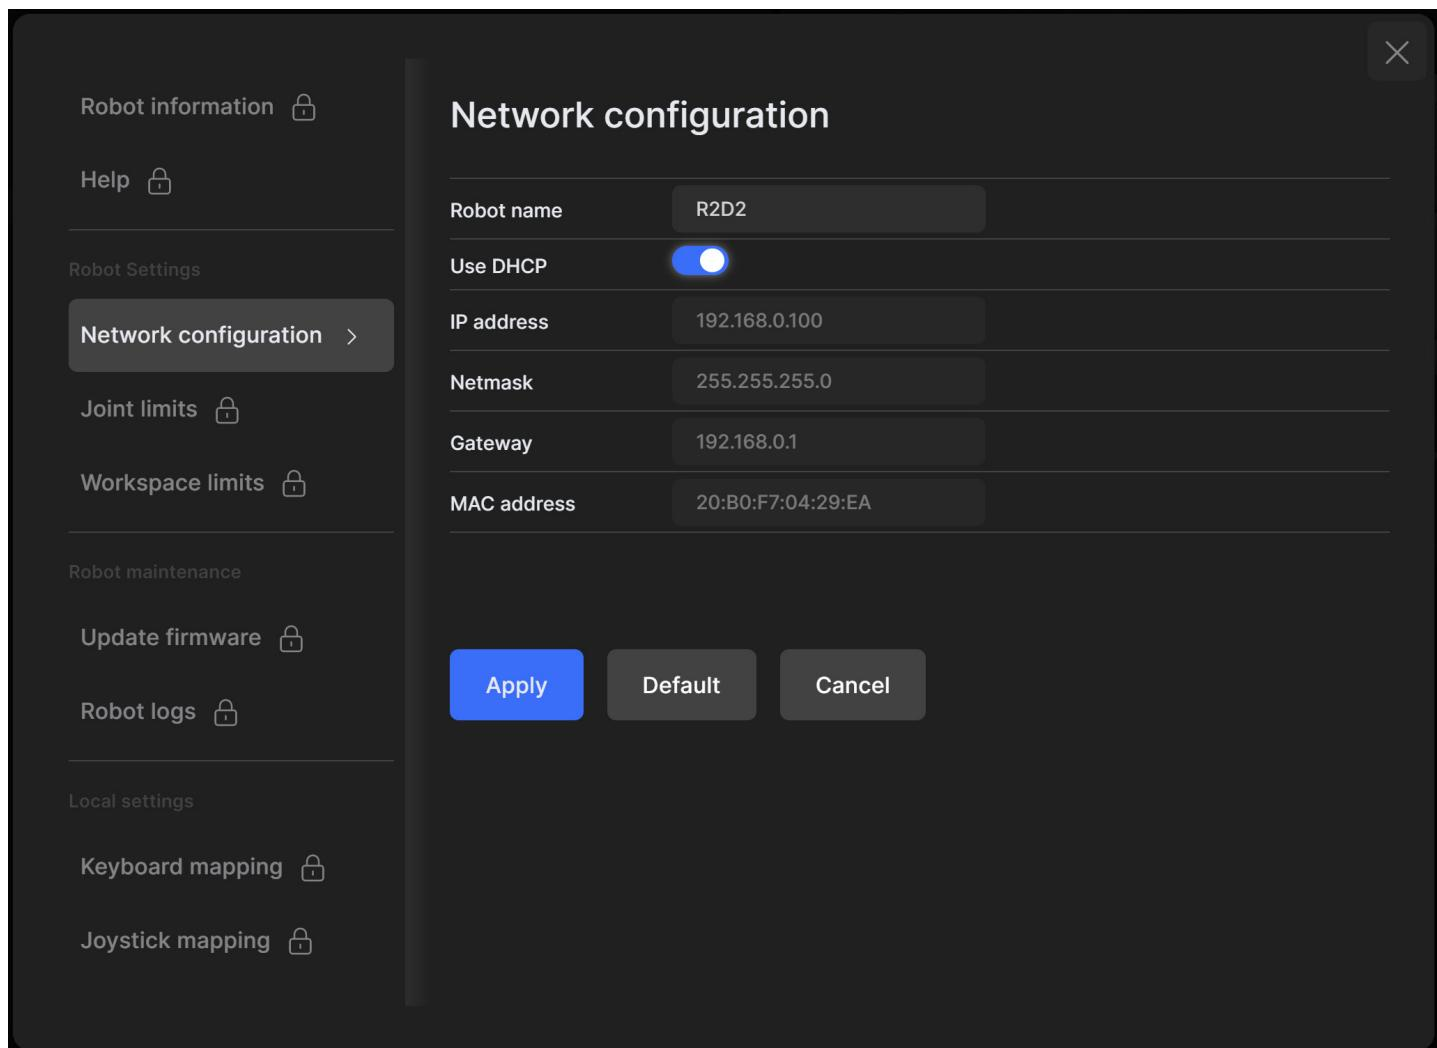

Figure 12: Changing the robot's network configuration
2. Depending on your configuration, activate the toggle DHCP to automatically receive an address from your router or leave untoggled to force a specific IP. You don't need to reboot the robot; the new configuration will be applied as soon as you click on the Apply button (Figure 12).